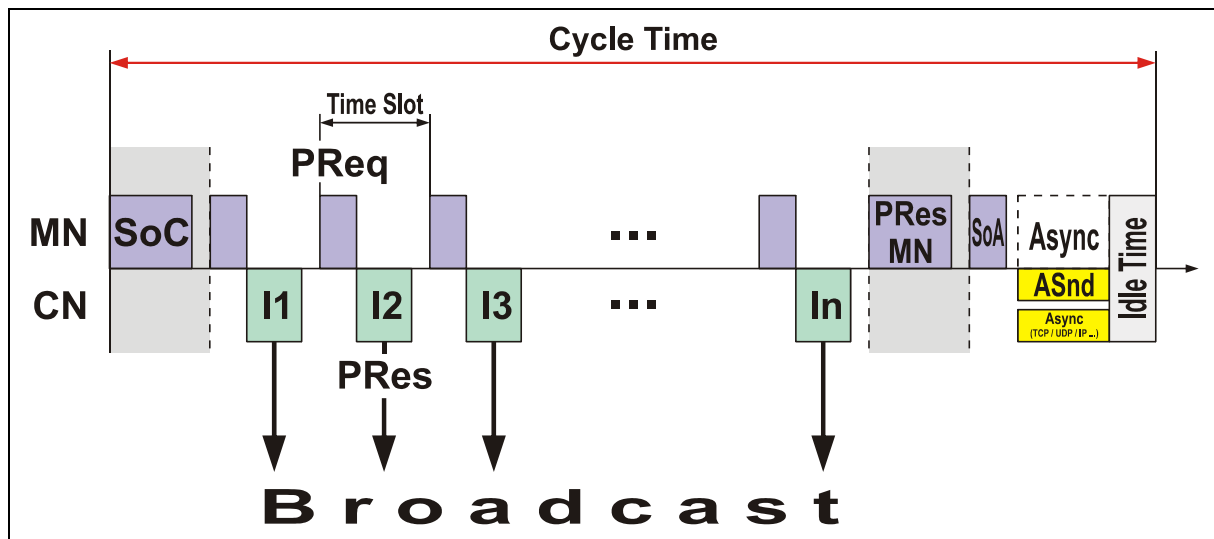

Figure 2: EPL Cycle diagram
Network access is managed by a master, the EPL Managing Node (MN). A node can only be granted the right to send data on the network via the MN. Further the MN synchronizes all connected nodes. The remaining nodes, Controlled Nodes (CN), react to its instruction. Figure 2 shows a complete EPL communication cycle.